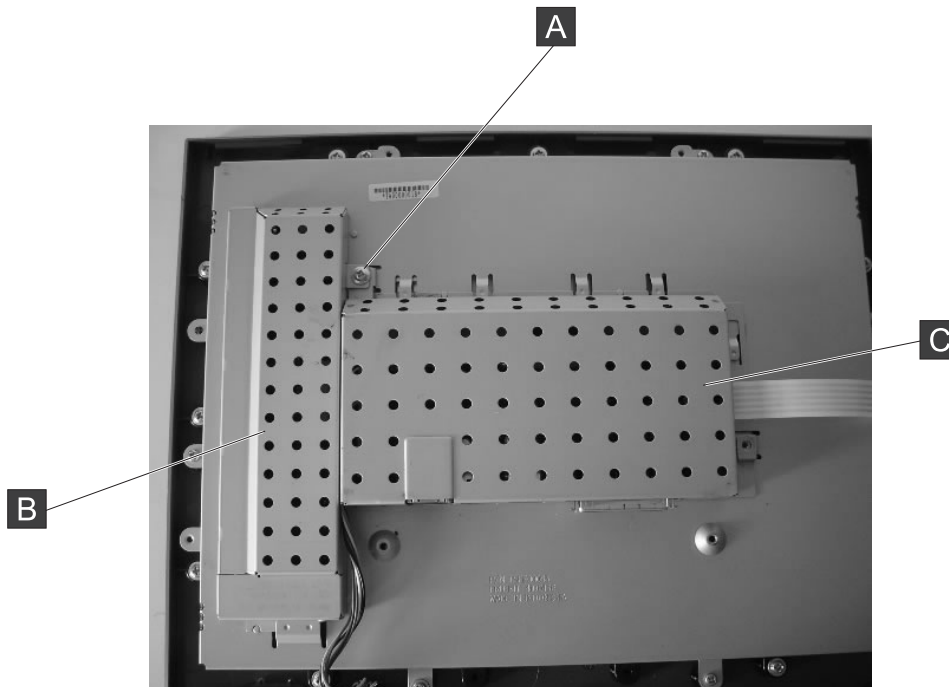

Figure 43. Location of EMC shields and common screw
3. Remove the backlight EMC shield ( **B** in Figure 43) by removing the common screw ( **A** ) securing both the backlight and touch card EMC shield.
3. Remove the common screw (see **A** in Figure 43) securing both the backlight EMC shield and the tablet touch EMC shield.
6. Remove the tablet EMC shield ( **C** in Figure 43 on page 58) by removing the remaining screw.